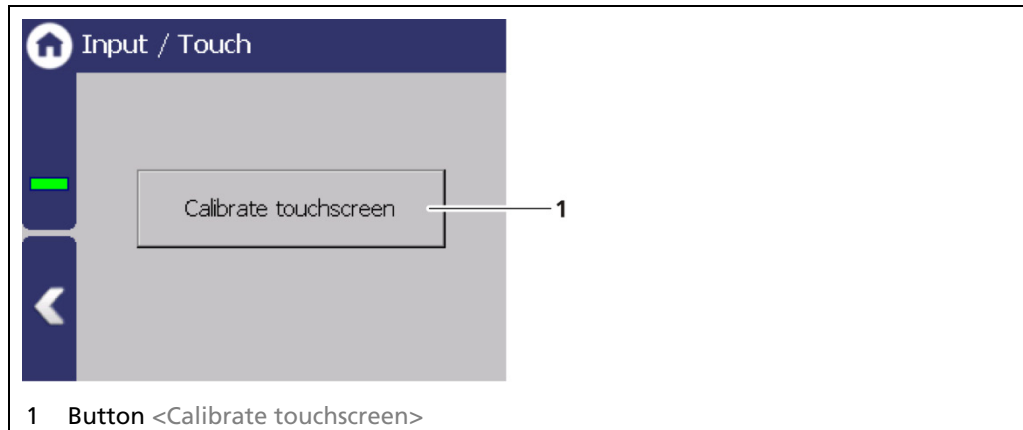

Fig. 33 Input/ Touch
Display dimming	In the field Display dimming, clicking the input fields allows the entering of the brightness (Fig. 33, item 2) in percent, that is set after expiry of the time (Fig. 33, item 1).
Display shutdown	In the field Display shutdown, clicking the input fields allows the entering of the brightness (Fig. 33, item 4) in percent, that is set after expiry of the time (Fig. 33, item 3).
Menu timeout	Under "Menu timeout" clicking on the input field (Fig. 33, item 5) changes the time period (seconds) in which the menu view changes to the standard view.